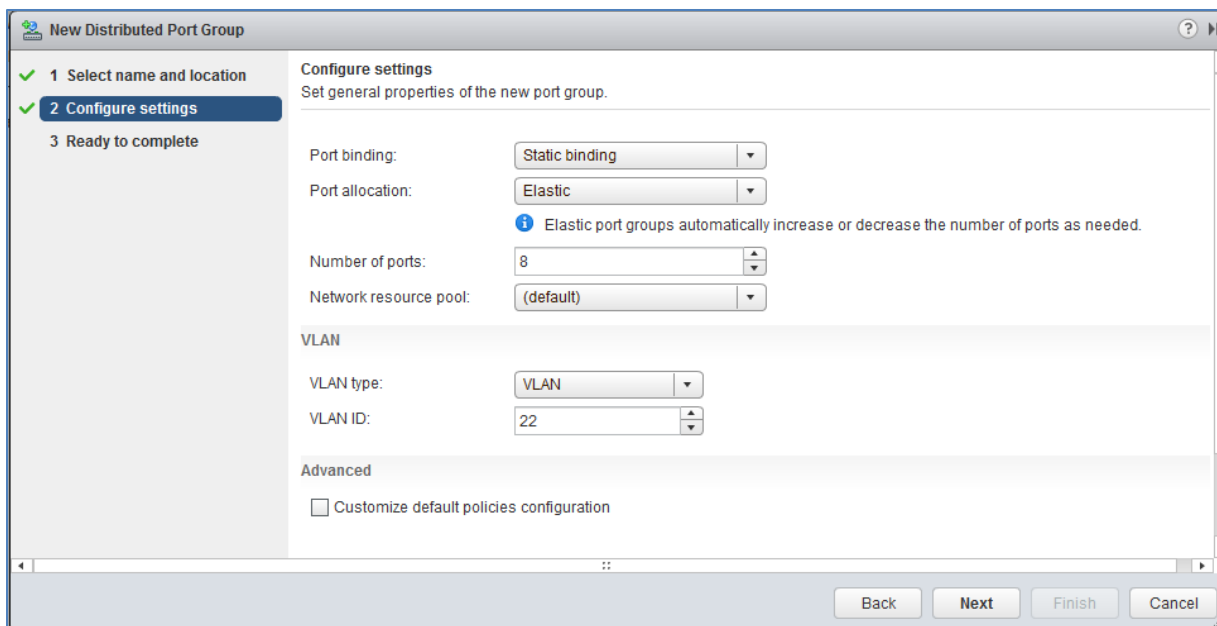

Figure 29 Distributed port group settings page – vMotion port group
4. On the **Configure settings** page, next to **VLAN type**, select **VLAN**. Set the **VLAN ID** to **22** for the vMotion port group. Leave other values at their defaults as shown in Figure 29.